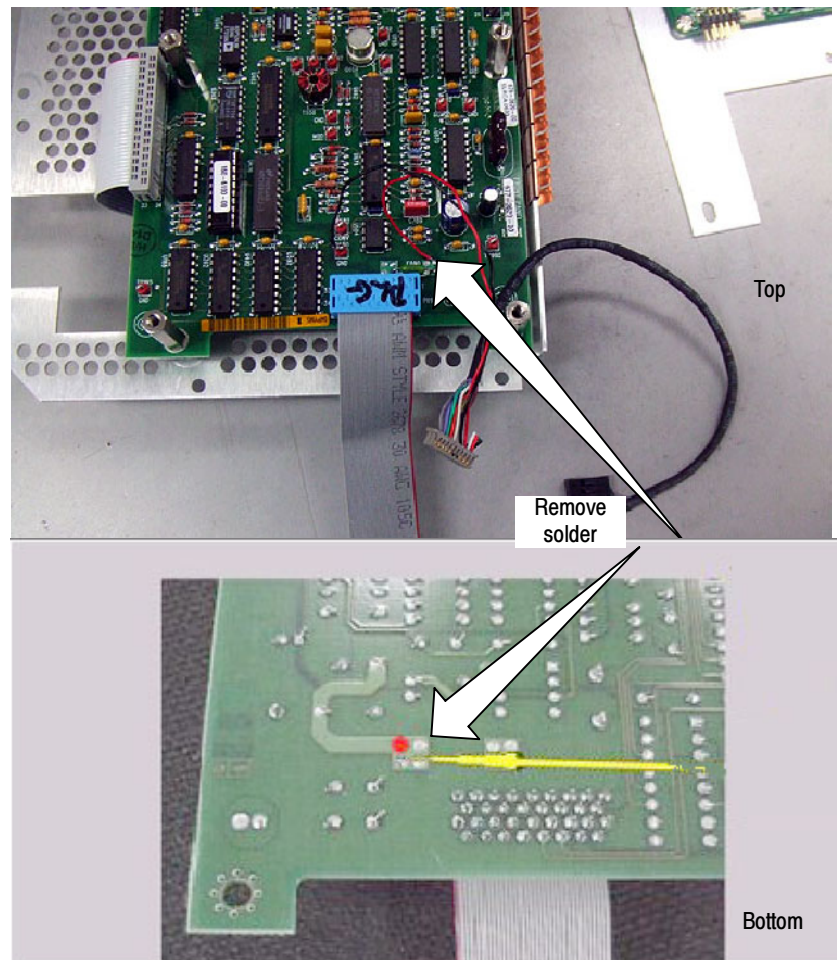

Figure 8: Solder Power cable to Keypad board
- a. Remove the solder from the hole near fuse F890 that is marked +5V and solder the red wire from the new Power and I/O cable assembly into this hole. See Figure 8.